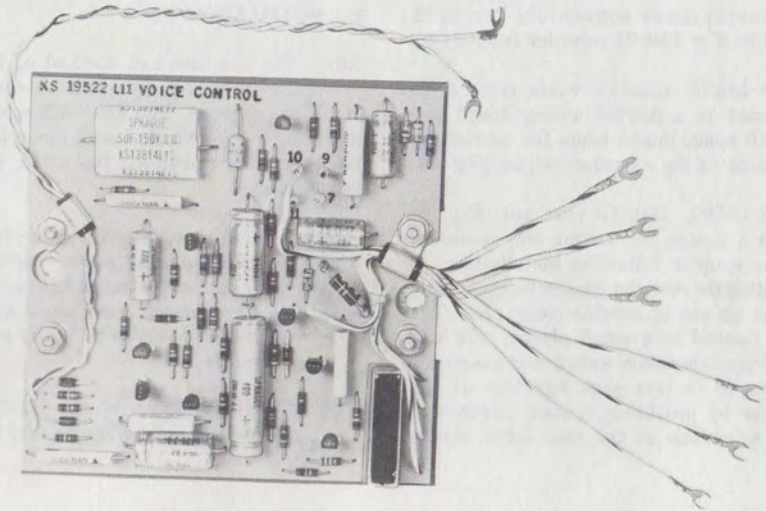

Fig. 5—KS-19522, List 11 Voice Control, Unmounted
(Fig. 5) may be ordered separately for field installation in List 1 or List 21 recorder couplers.♦
**2.10** The KS-19522, List 11 voice control is constructed on a printed wiring board and is equipped with spade-tipped leads for connecting to screw terminals on the recorder coupler (Fig. 5).